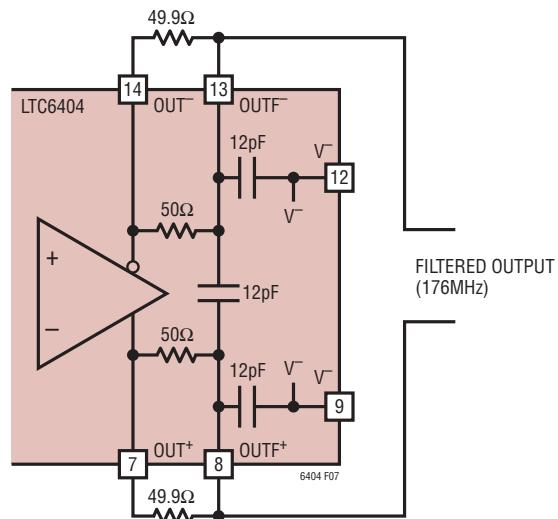

Figure 7. LTC6404 Filter Topology Modified for 2x Filter Bandwidth (2 External Resistors)
88.5MHz, and a noise bandwidth of 139MHz. The filter cutoff frequency is easily modified with just a few external components. To increase the cutoff frequency, simply add 2 equal value resistors, one between OUT⁺ and OUTF⁺ and the other between OUT⁻ and OUTF⁻ (Figure 7). These resistors, in parallel with the internal 50Ω resistor, lower the overall resistance and therefore increase filter bandwidth. For example, to double the filter bandwidth, add two external 50Ω resistors to lower the series filter resistance to 25Ω . The $36pF$ of capacitance remains unchanged, so filter bandwidth doubles. Keep in mind, the series resistance also serves to decouple the outputs from load capacitance. The unfiltered outputs of the LTC6404 are designed to drive $10pF$ to ground or $5pF$ differentially, so care should be taken to not lower the effective impedance between OUT⁺ and OUTF⁺ or OUT⁻ and OUTF⁻ below 25Ω .